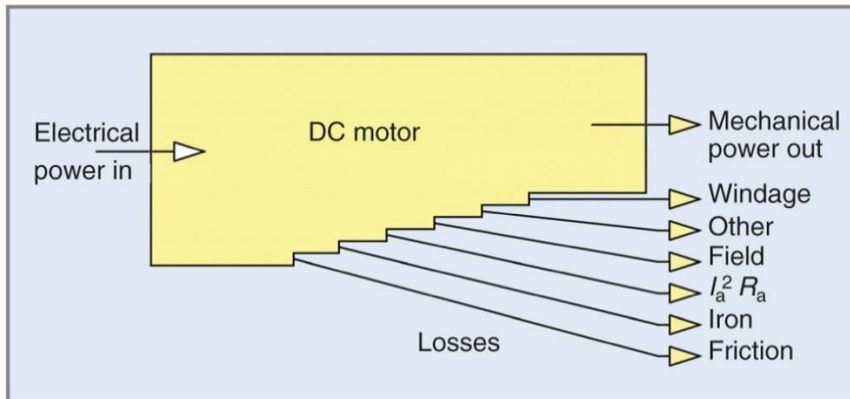

Figure 49. Energy conversion in a d.c. motor
49. Therefore the energy conversion of a d.c. generator can be said to be: mechanical power supplied by a prime mover rotating a coil in a magnetic field that produces electrical power used by a load. A pictorial representation of this can be seen along with losses in Figure 49.